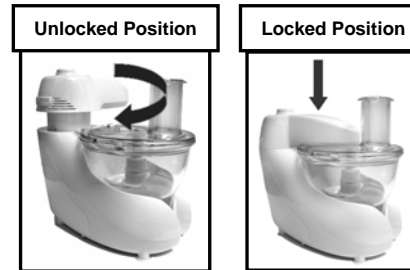

Fig. 6
- Turn the swivel head clockwise until it stops turning and push down until it "clicks" into place. (Fig. 6)